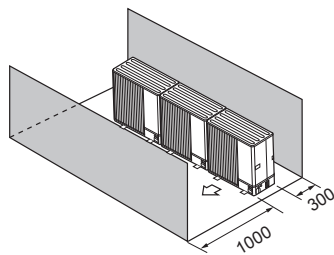

Fig. 1-15
- ④ Obstacles at front and rear only (Fig. 1-15)